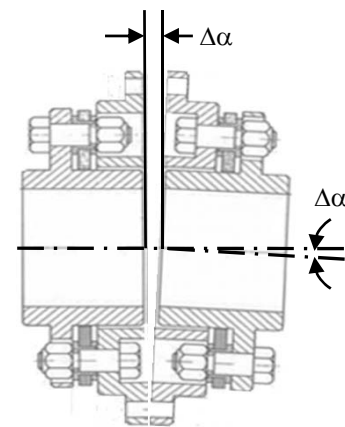

Figure 3 Angular misalignment measurement
2. Dimension $\Delta\alpha$, as shown in Figure 3, should be measured in at least three points, equally spaced, to determine the maximum value for $\Delta\alpha$. This must not exceed the maximum allowable dimension stated in Table 1.